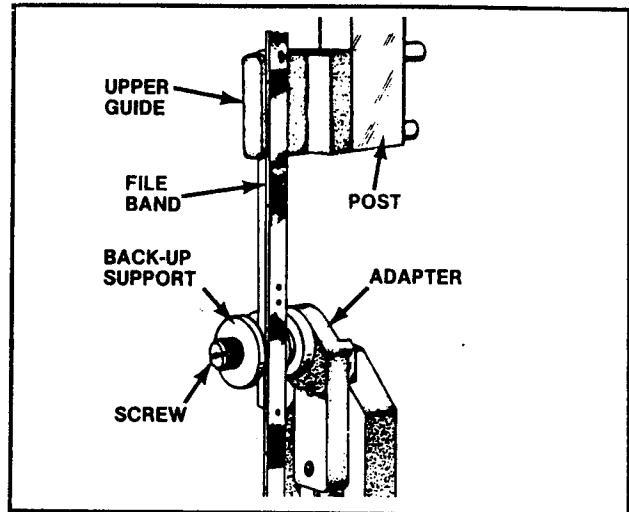

FIG. 46. FILE GUIDE INSTALLATION.
- (1) Remove saw band, saw guides, table center disk, and post band guard. Mount file guide back-up support to lower keeper block. Install upper guide to post. See Fig. 46.